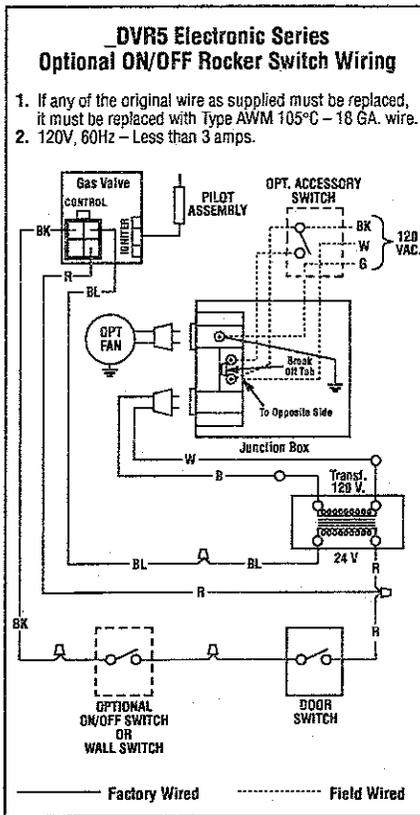

Figure 17
Regardless of whether an optional forced air blower kit (*Figure 16*) is to be installed now or sometime in the future, the appliance must be connected to the main power supply. To install, route a 3-wire 120V 60Hz power supply to the appliance junction box (located in the lower left side of the appliance) and ground. Also, at this time you may wish to locate and install an optional low voltage (24V) wall switch (*Figure 17*) in the desired location, connect the low voltage wire to this switch and/or install thermal snap switch in series. Refer to the installation instructions provided with the forced air kit.
**Note:** The optional rocker switch is mounted to the appliance and wired in the same way as the remote wall switch (*Figure 17*).